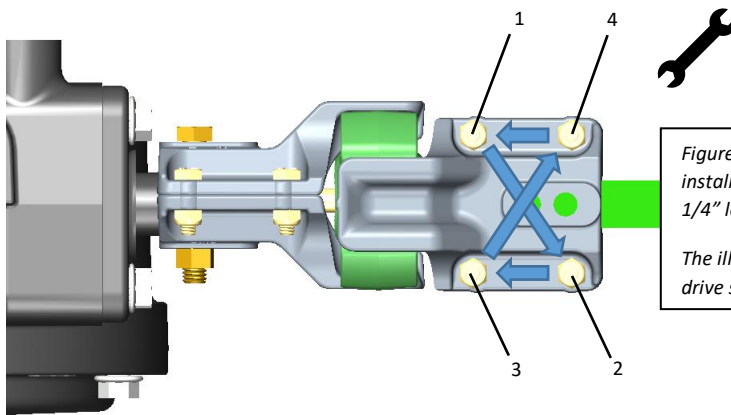

Figure 11: Shows the alternating pattern that the installer should take when tightening down the 1/4" lock nuts.
12. After the final check is completed, begin by tightening the four 1/4" bolts on the couplers that are installed on the drive shaft. Start on one of the couplers on either end of the drive shaft. Tighten the four 1/4" lock nuts in an **ALTERNATING FASHION**, as shown in Figure 11, one full turn at a time to avoid damaging the coupler. Tighten to 7 ft-lbs. of torque. **DO NOT OVER-TIGHTEN. OVER-TIGHTENING CAN RESULT IN DAMAGE TO THE LOAD ARMS.**